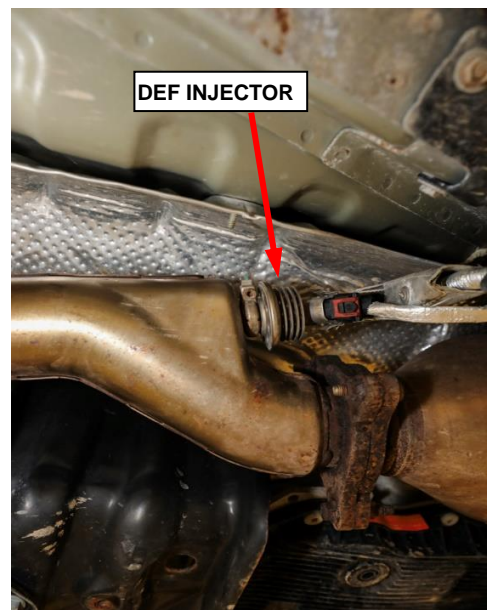

Figure 25 – DEF Injector
49. Remove the DEF injector clamp and injector (Figure 25).